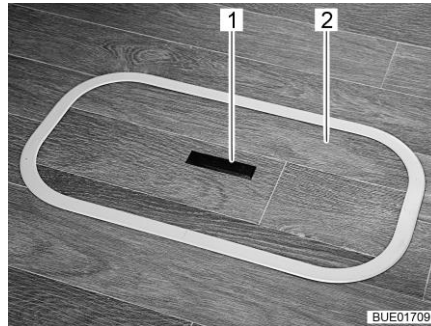
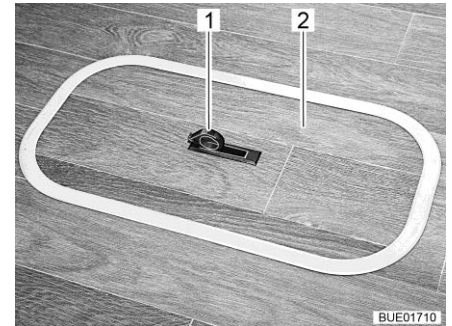

Fig. 71 Floor compartment cover
Fig. 72 Floor compartment cover
- Push one side of the grip plate (Fig. 71,1) downwards. The handle (Fig. 72,1) swivels upwards.
- Remove the cover (Fig. 71,2 or Fig. 72,2) upwards.